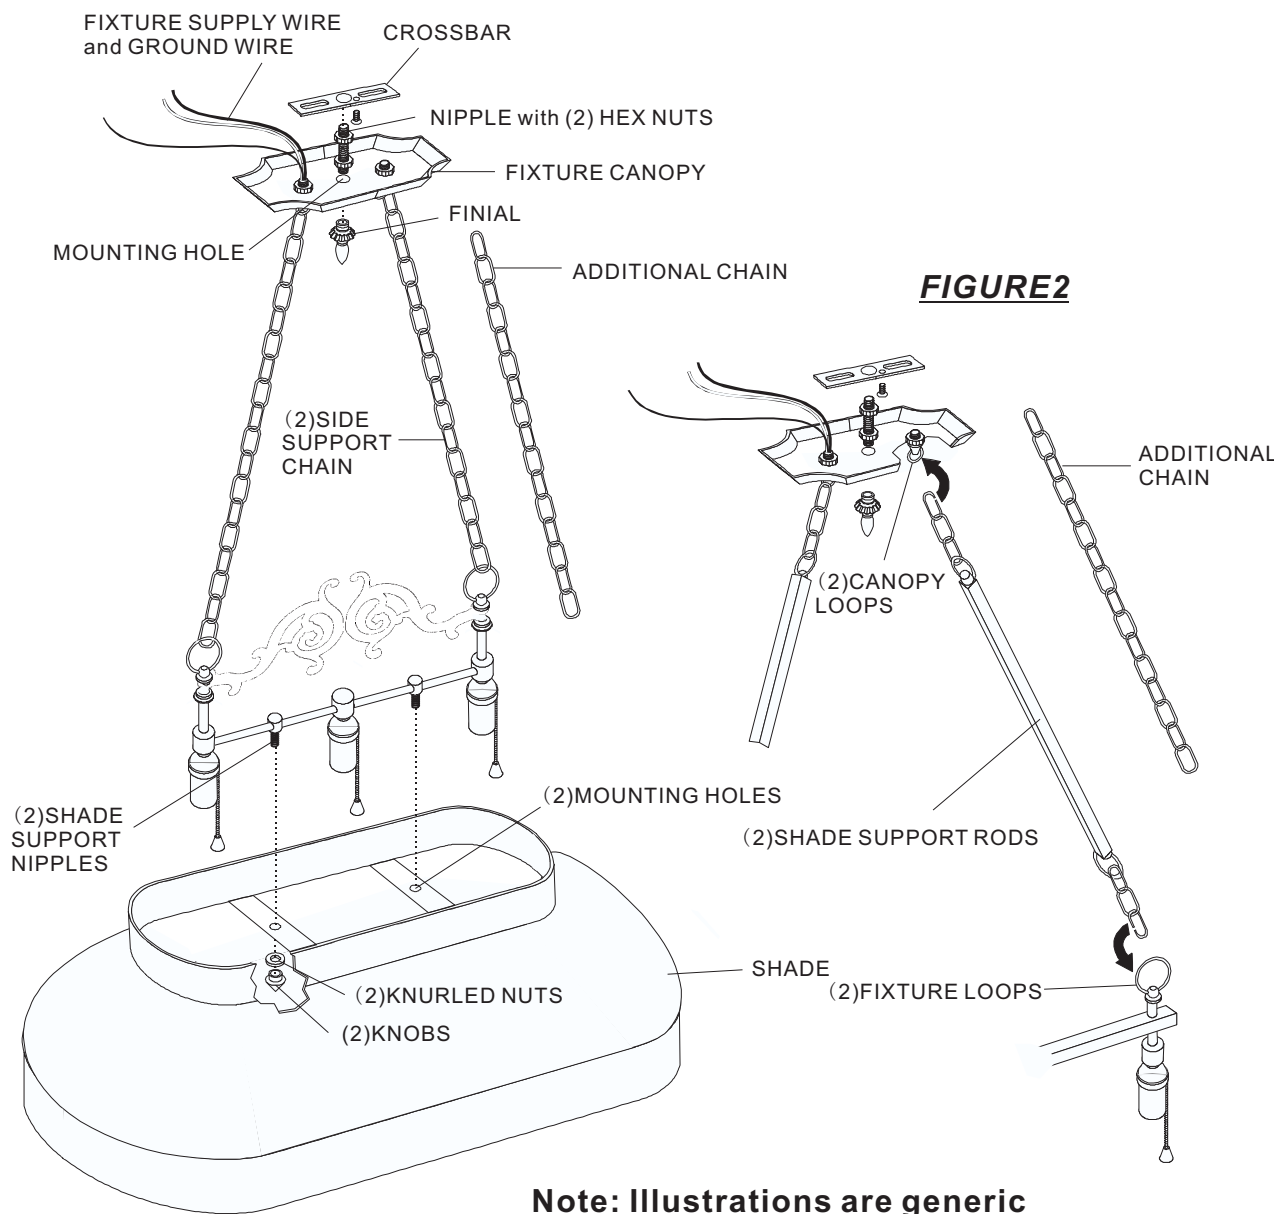

**FIGURE1**
1. Before beginning the installation, carefully unpack and identify all parts referring to the illustrations on the left side of page for parts identification. Please note that FIGURE1 illustrates fixture with SIDE SUPPORT CHAINS and FIGURE2 illustrates fixture with SIDE SUPPORT RODS. Please refer to applicable figure based on style purchased.
2. With power to the installation point OFF. Locate the CROSSBAR and secure to CEILING MOUNTED OUTLET BOX with (2)OUTLET BOX SCREWS(not supplied). Locate the NIPPLE with (2)HEX NUTS and thread top into the center underside of CROSSBAR.
**(FOR FIXTURE WITH SIDE SUPPORT CHAINS, FIGURE1)**